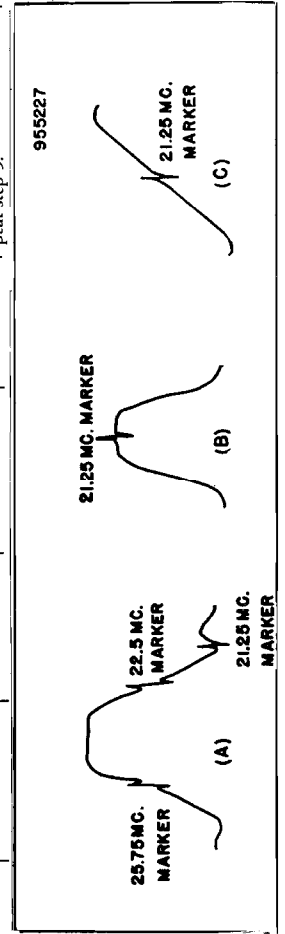

Figure 5-7—I-F Response Curves—Chassis 120025B
- Waveforms shown may be inverted, depending on the number of amplifying stages in the vertical amplifier of the scope being used. See figure 5-7.
- ALIGNMENT — Alignment of the television receivers differs for the two types of chassis employed, particularly in the video i-f and audio i-f sections. The video i-f coupling units are peaked at the specified frequencies, to obtain the overall response curves indicated in figures 5-7 and 5-10. The order of alignment of the various stages is as follows: video i-f traps, video i-f coupling impedances, audio i-f transformers, audio f-m discriminator, r-f converter, and oscillator stages. Before proceeding with alignment carefully remove the picture tube, V25. Ground the high voltage lead for safety.